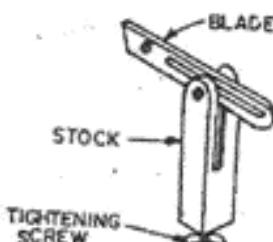

Fig 15 Bevel square
**3. Bevel square.** It is used for setting, duplicating, testing and comparing angles and bevels. It consists of a wooden or metallic stock fitted with a slotted blade. The blade can be adjusted at any point along the slot and at any angle from  $0^\circ$  to  $180^\circ$  with respect to the stock. The screw at the bottom is used to tighten the blade in position after it is set. A common type of bevel square is shown in Fig. 15.